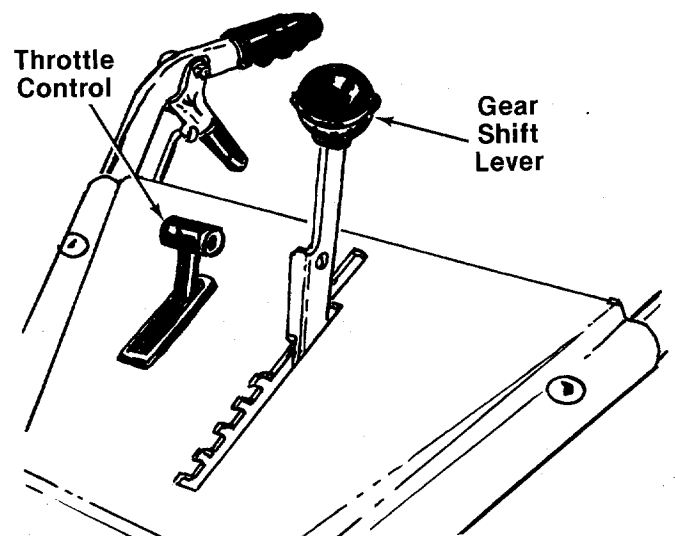

FIGURE 14.
1. Forward (1 thru 5)—Move the lever to the left and forward for each gear. See figure 14.
The throttle control lever is located on the right hand side of handle panel and controls the engine speed. See figure 14.
1. Place the gear shift lever in "NEUTRAL" (N) position. See figure 14.